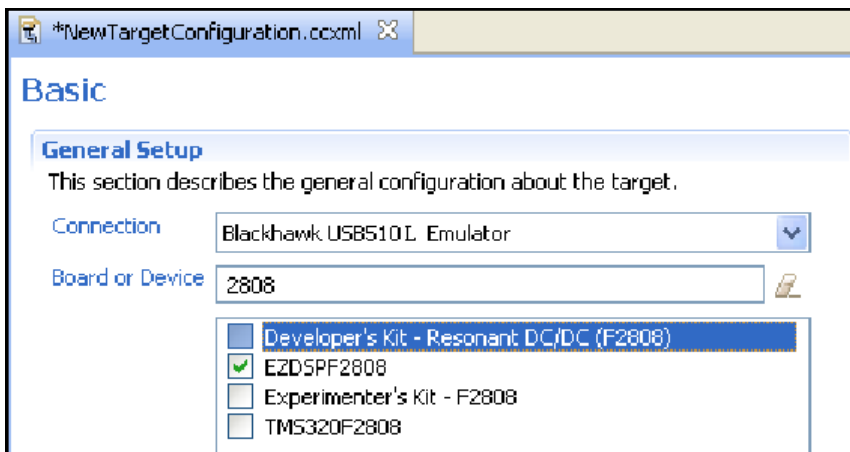

FIGURE 2 - USB510L Target Setup and Selection
1. In the CCS v4 or v5 bring up the **New Target Configuration Window** from the File menu option. (see figure 2 below)